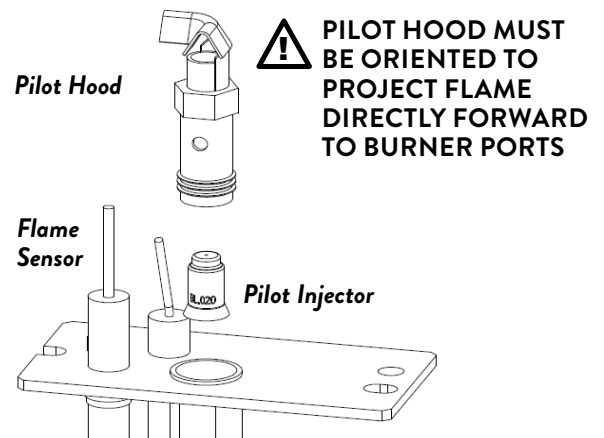

Figure 7.7 Replace pilot injector
6. CHANGE THE PILOT INJECTOR, Fig. 7.7